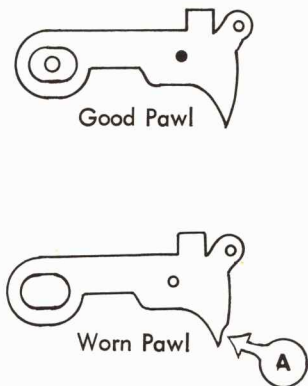

Figure 3.1
1.8 Backspace may go a full space but a worn escapement pawl will cause the carrier to skip ahead 1/2 space. See Fig. 3.1. Look for this condition under powered operation. To prevent a recurrence, replace the escapement pawl AND rack.